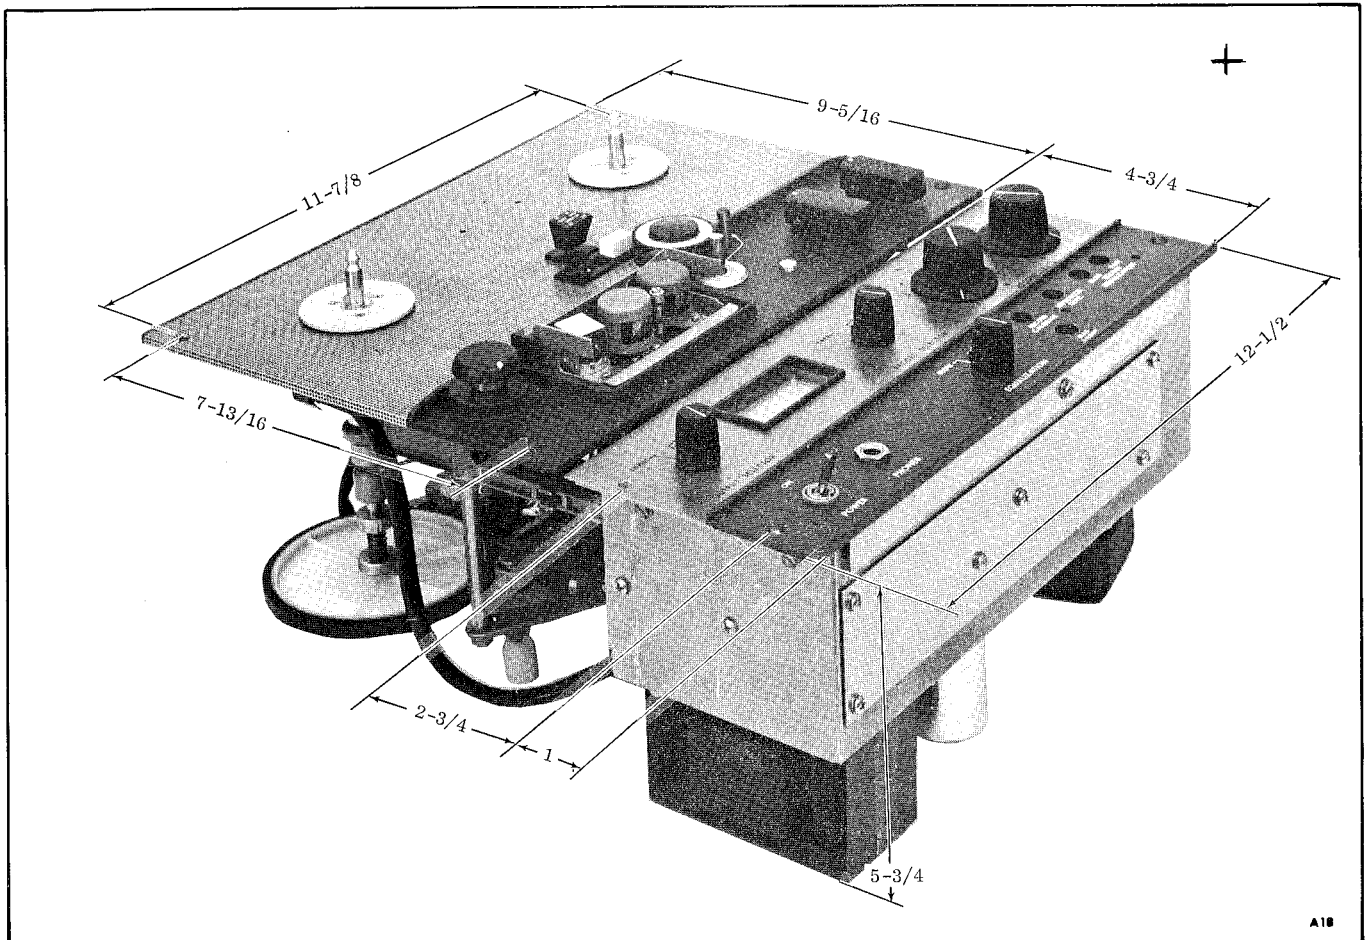

Figure 2-1. Mounting Dimensions
2.5 Portable equipment is shipped mounted in the case. Unmounted equipment can be installed in custom consoles, or in standard 19-inch racks with the mounting adaptors. Recorder mounting dimensions are given in Figure 2-1.